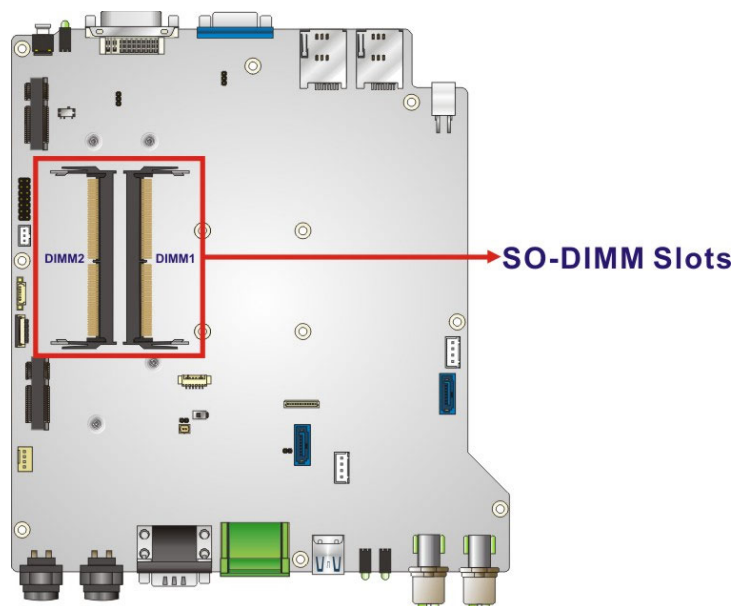

Figure 5-1: SO-DIMM Slot Locations
Step 3: Locate the SO-DIMM installed on the motherboard. The SO-DIMM slot locations are shown in **Figure 5-1**.